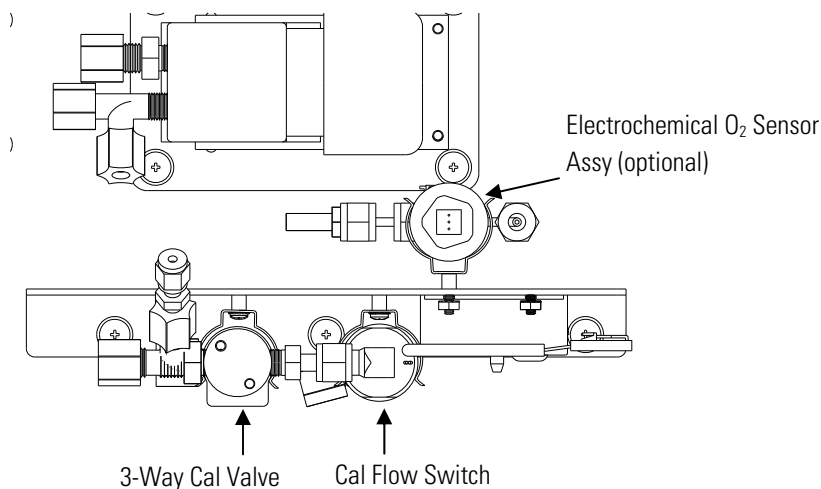

Figure 7-13. Replacing the 3-Way Cal Solenoid/Flow Switch Assembly and Electrochemical Oxygen Sensor
Use the following procedure to replace the 3-way cal solenoid/flow switch assembly (Figure 7-13).
3. Disconnect the tubing from the Kynar fittings, then unsnap the assembly from the two spring clips on the bracket (Figure 7-13). Note the location of each tubing segment to aid in reconnection.